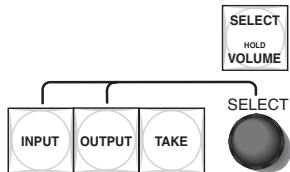

Figure 3-6 — Suggested button labels for audio volume mode
- Pressing button ② changes the IP address shown in the LCD display, cycling through the various IP addresses, and then selects the host control setting, the connection priority, and the LCD backlit duration, as shown in figure 3-6.
- Pressing button ③ changes the editable octet (moves the caret) of the selected IP address, as shown in figure 3-6.
2. Use button ② and button ③ to select and display the desired address and octet.